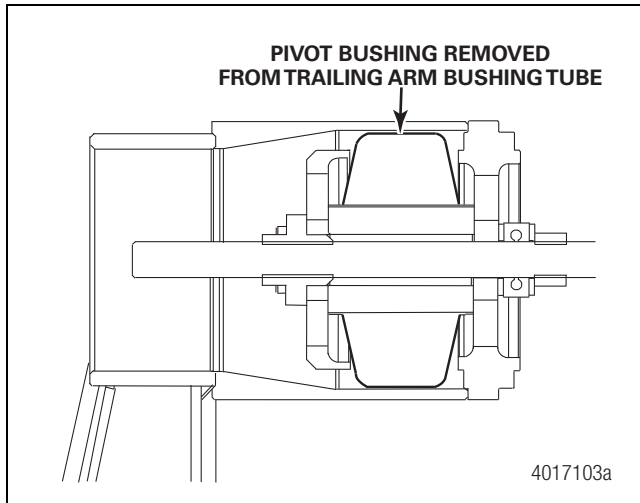

Figure 6.11
13. Turn the draw bolt **CLOCKWISE** using a 1/2-inch impact wrench at a reduced and steady speed. Continue turning the draw bolt until the bushing is pulled into the compression funnel against the draw plate. Figure 6.11.